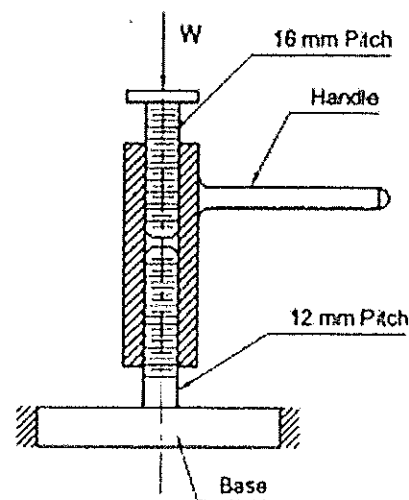

Fig.Q8
- c. A designer proposed a differential type screw jack using two right handed single start square screws, as shown in the Fig.Q8. Upper screw which supports the load has 16mm pitch and the lower screw which fixed to the base has 12mm pitch. In operation neither screw rotates. The outside screw diameter is 50mm and the Coefficient of thread friction is estimated to be 0.15.